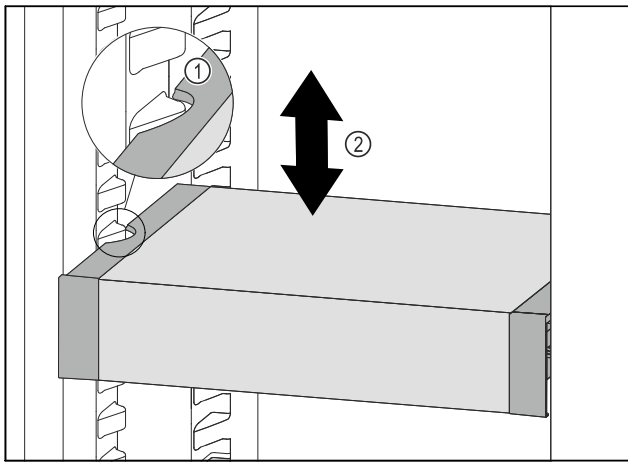

Fig. 125
- Pull VarioSafe forwards until the recesses in the side of the VarioSafe are at the level of the support rib in the refrigerator compartment. Fig. 125 (1)
- Move VarioSafe up or down in the refrigerator compartment until the desired height is reached. Fig. 125 (2)